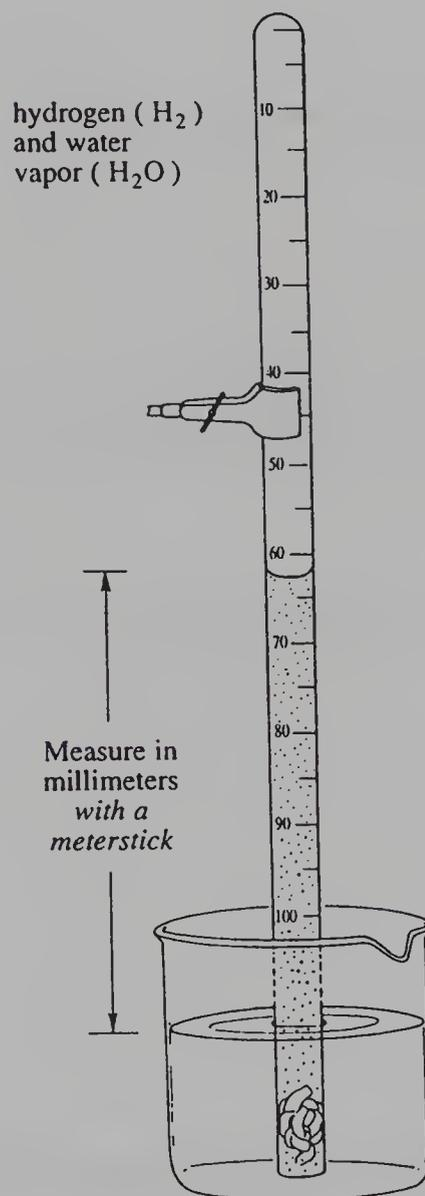

Figure 10-1. Collecting a Gas with the Use of an Eudiometer Tube
2. In the hood add approximately 8 mL of concentrated HCl to a eudiometer tube. With your wash bottle, wash down into the tube any acid that might have adhered to the eudiometer walls. Coil the weighed strip of Mg ribbon into the eudiometer tube, approximately 5 to 10 cm from the open end. (Copper wire wrapped around the ribbon helps to keep it in place.) Fill the tube with water and invert into a suitable vessel nearly filled with water. The eudiometer volume should read zero if the tube is filled completely with water. Record the initial reading in your laboratory notebook. Clamp the tube in position (Figure 10-1).
3. The concentrated HCl will gradually diffuse down to the Mg and react with it. The Mg may break free from the copper wire. Tilt the tube to ensure that the Mg does not stick to the sides of the tube. After reaction has ceased, if possible, adjust the liquid level in the tube to the level of liquid in the vessel. The gas pressure in the tube is then equal to atmospheric pressure. If the difference in levels is large, it must be measured as shown in Figure 10-1.